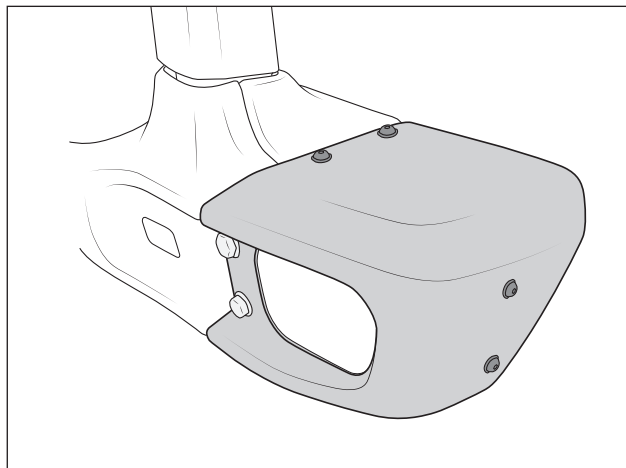

Figure 23
2. Install black M8x25mm button head bolts with washers into each of the weld nuts in the two holes along the top of the corner stamping and two holes through side of corner. A slipper bar may be helpful to align all the holes during bolt installation (fig. 23).